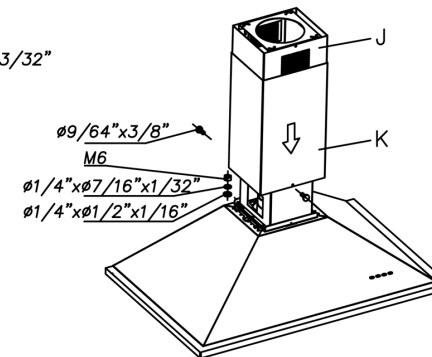

Fig. 5
- Introduce the K pipe and keep it raised (Fig. 5).
- Affix the hood to the telescopic structure using the nuts and washers (Fig. 5).
- Lower the K pipe attach it to the hood with 2 screws (Fig. 5)